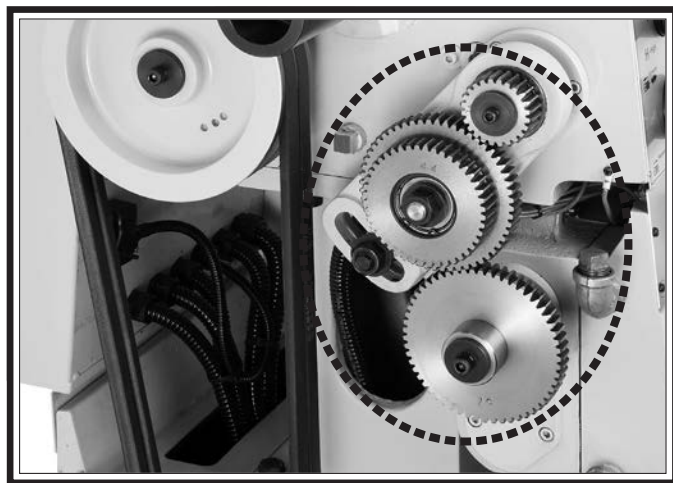

Figure 111. End gears.
The end gears, shown in **Figure 111**, should always have a thin coat of heavy grease to minimize corrosion, noise, and wear. Wipe away excess grease that could be thrown onto the V-belts and reduce optimal power transmission from the motor.
2. Remove the end gear cover and all the end gears shown in **Figure 111**.